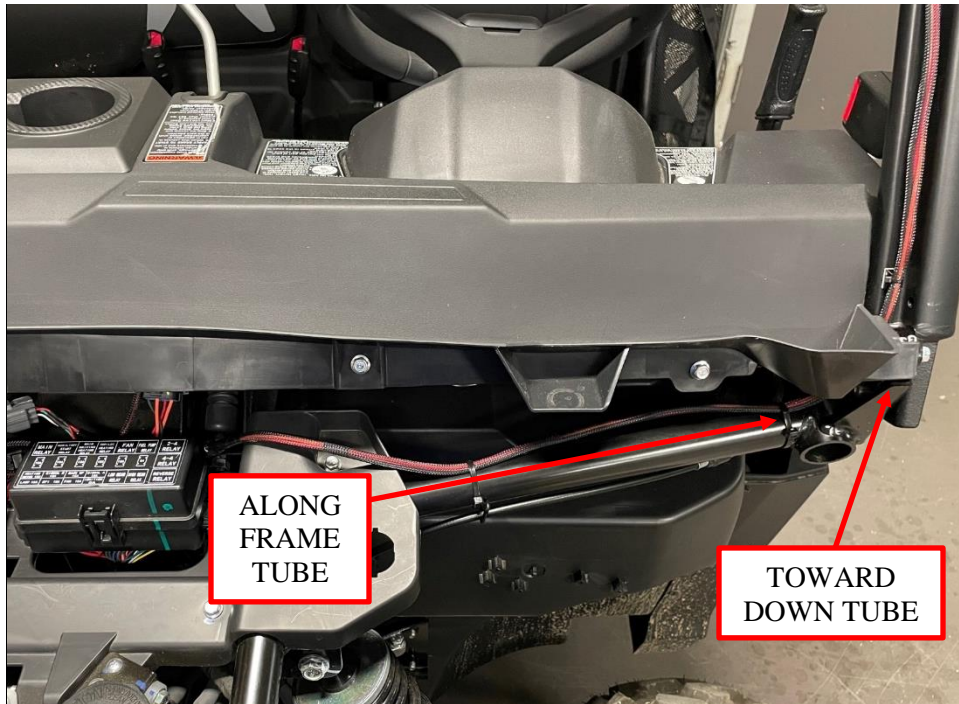

Figure 12: Chassis harness routing under body panel to opening.
14. Route the end of the chassis harness with the mating connector for the *Audio Mini* from the relay box along the frame tube toward the driver's front down tube. See Figure 12.